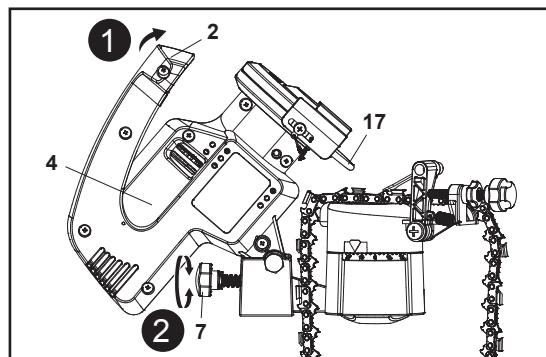

Fig. 7
1. Rotate the motor housing (4) by its operation handle (2) to check how deep the grinding disc (17) can be pushed down into the saw chain (Fig. 7, step 1).
2. Turn the depth stop screw (7) clockwise or anticlockwise to adjust the cutting depth (Fig. 7, step 2). Set it in an away so that the grinding disc (17) can only go as deep as absolutely necessary to sharpen the cutting edge. Take great care not to touch the chain links with the grinding wheel.